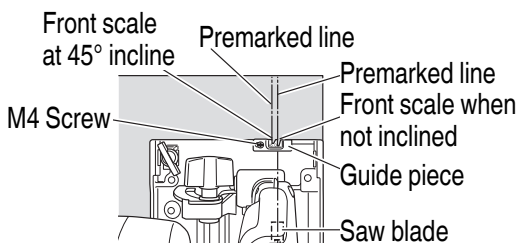
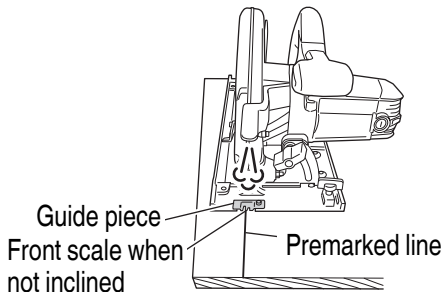
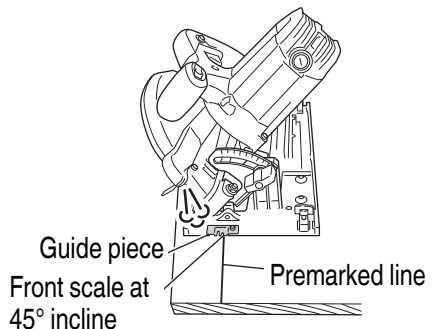

Fig. 9
Fig. 11
Fig. 12
On the circular saw, it is possible to make fine adjustment of the fixing position of the guide piece, where the saw blade and the premarked line are to be aligned. When the saw is shipped from the factory, the linear portion of a front scale on the guide piece is aligned with the central position of the saw blade (**Fig. 9**). Loosen the fixed M4 screw on the guide piece, should the fixing position be wrong, and make necessary adjustment of the position.
1. Place the base on the material, then align the premarked line and the sawblade with the guide piece front scale section at the front of the base (**Fig. 9 on page 25**). When the base is not slanted, use the large cutout as the guide (**Fig. 9 on page 25 and Fig. 11**). If the base is slanted (45 degrees), use the small front scale as the guide (**Fig. 9 on page 25 and Fig. 12**).